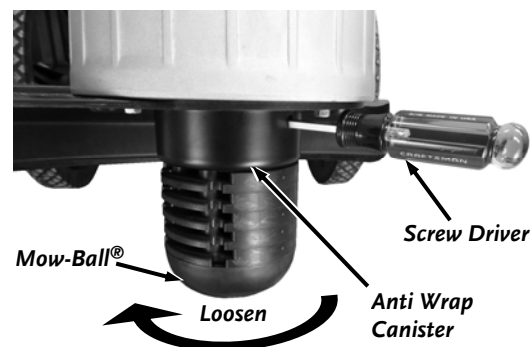

Figure 21
1. Align the hole in the Anti Wrap Canister with the hole in the internal housing at the location shown (**Figure 21**).